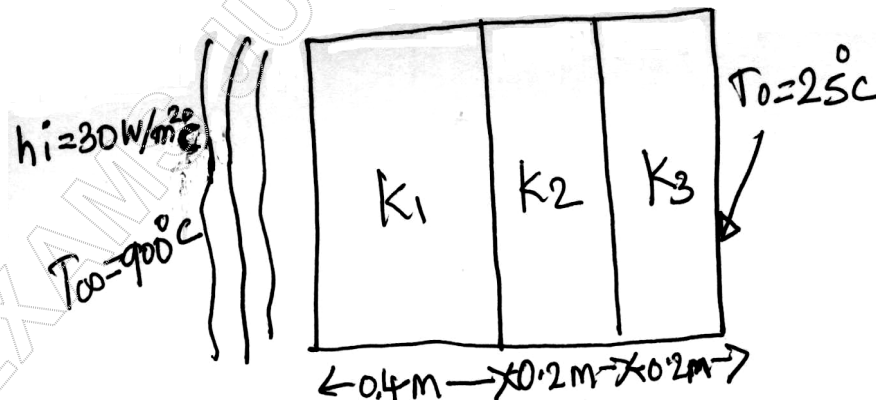

Fig Q10(b)
b. Composite wall consists of three materials as shows in Fig Q10(b). Determine the temperature distribution in the wall.